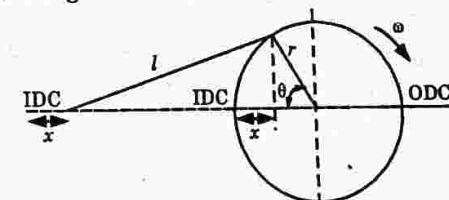

Fig. 4.12.1
- Let us consider the displacement of the piston, after a time t from its inner dead centre (IDC) be x (as shown in Fig. 4.12.1). Then one can write, $x = r - r \cos \theta$